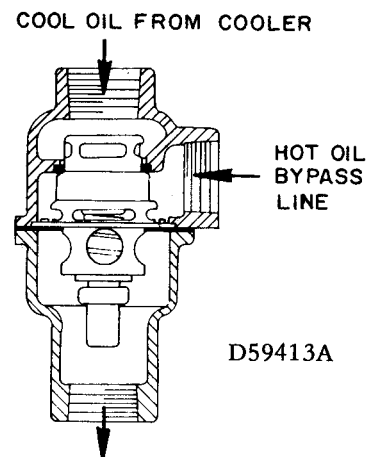

FIGURE 11. – THERMOSTATIC MIXING VALVE
**THERMOSTATIC MIXING VALVE** (Used With Radiator Type Oil Cooler) (Figure 11) is installed in the system as shown in the flow diagram, Figure 3. On start-up with unit cold, the thermostat in the valve is open to the bypass line, allowing oil to circulate directly from oil reservoir to compressor during warm-up period. As the oil warms up, the thermostat gradually opens to allow oil from the cooler to mix with oil from bypass line. After unit is warmed up, the mixing valve maintains oil injected into compressor at a minimum of 130° F. This system provides proper compressor warm-up and prevents moisture contamination of the oil.